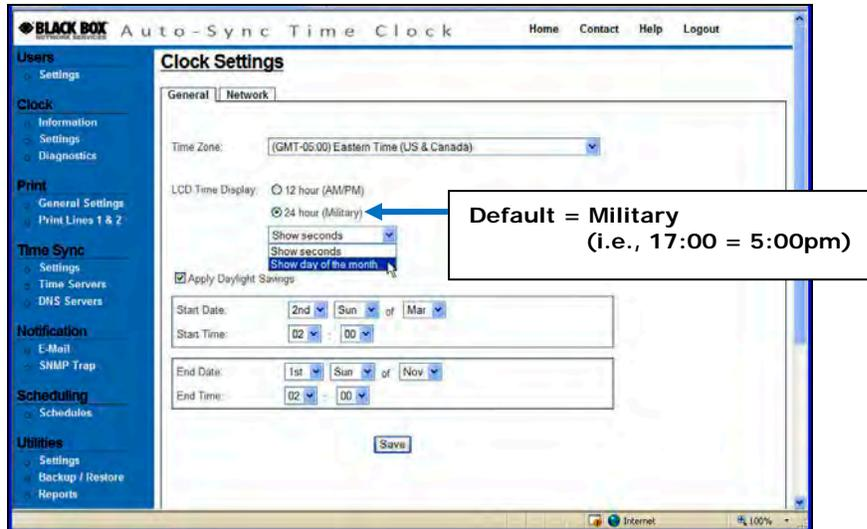

Figure 4-4. General Clock Settings.
3. Click on the **Settings** link under Clock, and the **Clock Settings** screen for general settings will appear (see *Figure 4-4*). Select the appropriate Time Zone from the dropdown menu, select 12 hour (AM/PM) or 24 hour (Military = default setting) for the display and transaction format. Select if seconds or date will be displayed. Check whether or not daylight savings should be applied. Enter the Start and End DST dates/times if DST applied. Click on the  button to save custom general clock settings.
1. After you have logged in, click on the **Settings** link under Clock, and the **Clock Settings** screen for general settings will appear (see *Figure 4-4*).
2. Select the appropriate Time Zone from the dropdown menu (see *Figure 4-4*). The default = EST. The Time Zone selected controls the Time Zone adjustment sent to the clock. If OATS compliance is necessary, the Time Zone must be set to the default of (GMT-05:00) Eastern Time (US & Canada).